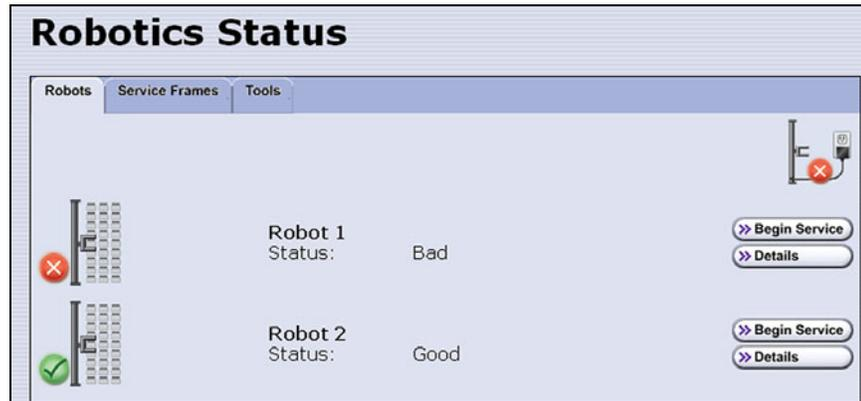

Figure 4 The Robotics Status screen.
4. Click **Begin Service** next to the robot you need to move into its service bay in preparation for the service operation. A status message is displayed when the TeraPorter is successfully moved to the service bay (see Figure 4 on page 9).